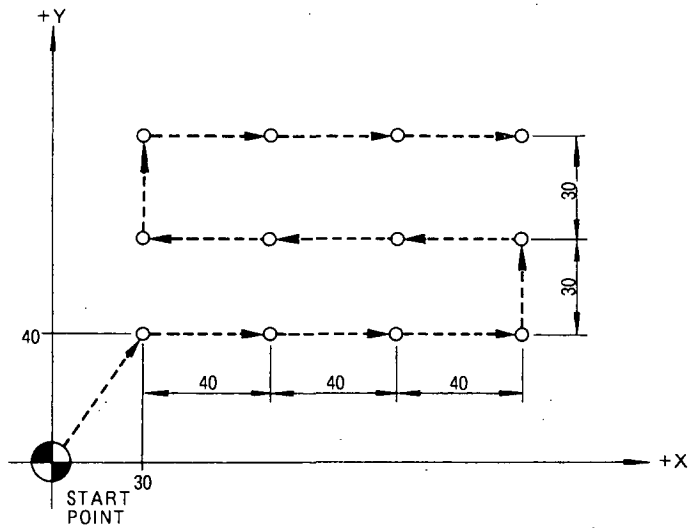

Fig. 4.29
(1) G90.....Absolute Designation (Fig. 4.29)
(2) G91.....Incremental Designation (Fig. 4.29)